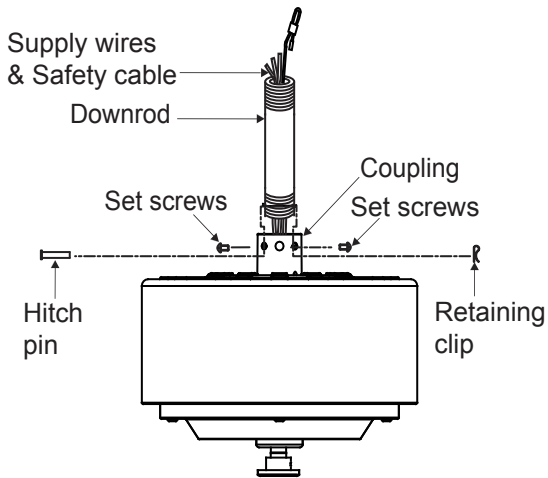

Fig. 9
Step 7. Loosen the two setscrews and remove the hitch pin and retaining clip from the coupling on top of the motor assembly. (Fig. 9)
Step 8. Carefully route the electrical supply wires and safety cable exiting the top of the fan motor assembly through the downrod. Thread the downrod into the coupling until the hitch pin holes are aligned. (Fig. 9)
Next, replace the hitch pin and retaining clip. Tighten both setscrews. (Fig. 9)